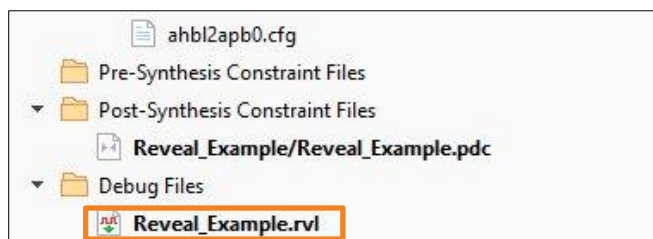

Figure 3.48. Adding .rvl File to Debug Files
4. Save the changes and add the .rvl file to **Debug Files** (Figure 3.48).